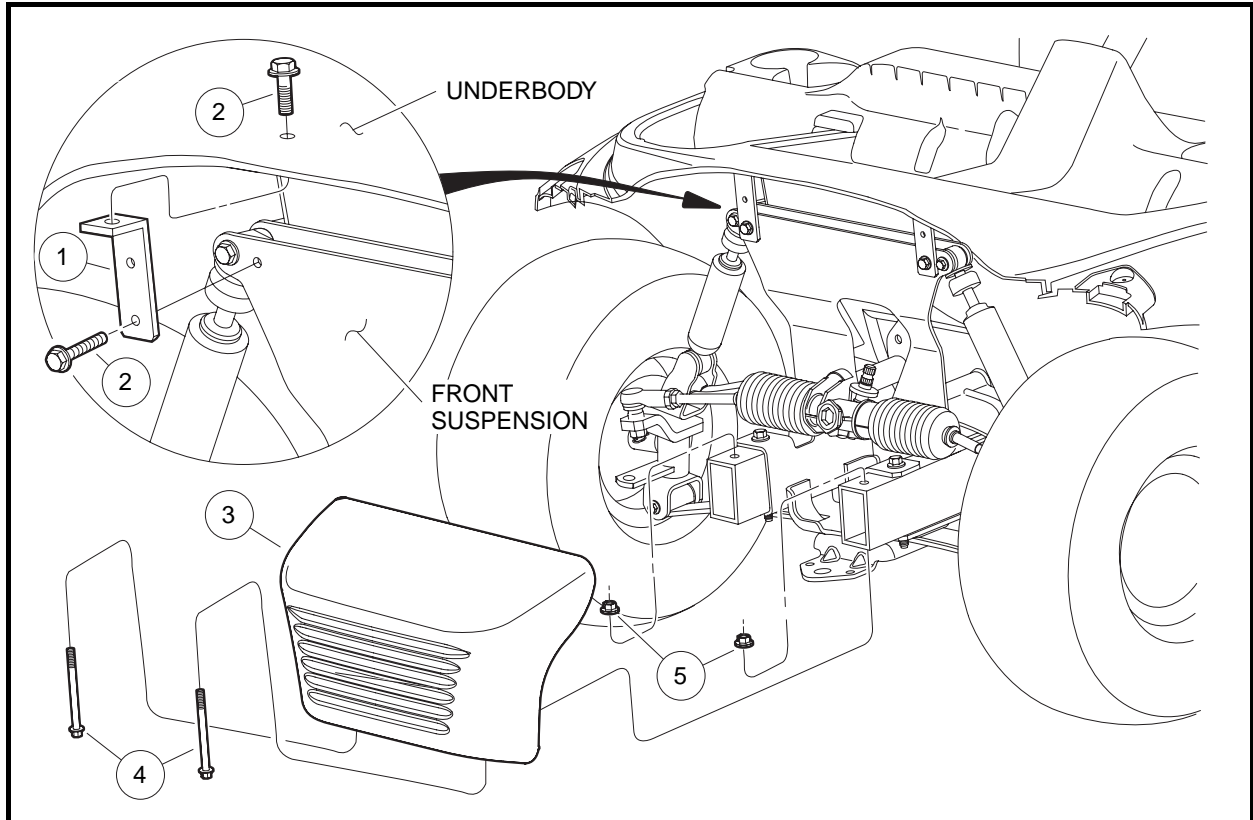

Figure 4-2 Bracket and Front Bumper
The underbody bracket (1) connects the front suspension to the front underbody (**Figure 4-2, Page 4-5**). Each bracket is secured in place by two taptite screws (2) tightened to 13 ft-lb (17.6 N-m).